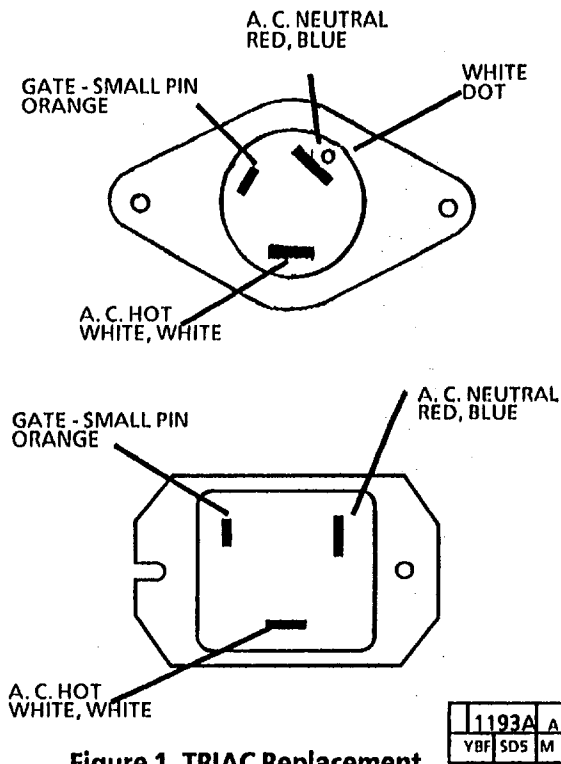

Figure 1. TRIAC Replacement
2. (Figure 1): Replace the triac.